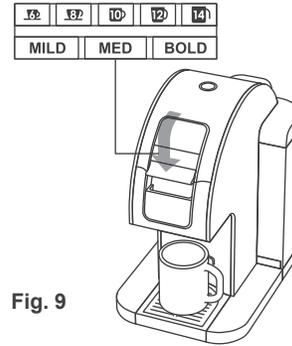

Fig. 9
3. Close the Cover by pressing down on the Cover Handle. (Fig. 9)
4. Press on the desired cup button. The default taste is BOLD. You may select a different taste preference by pressing on the MILD or MED Button. (Fig. 9)